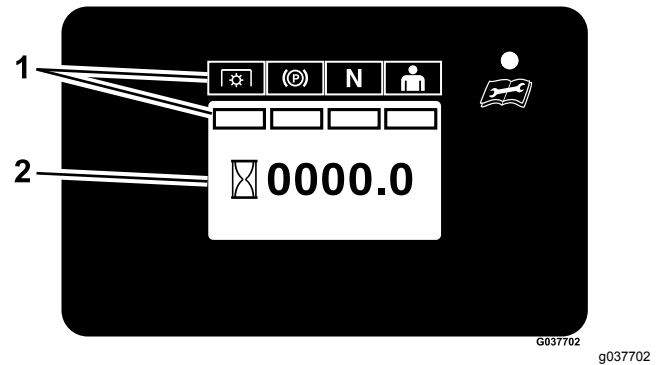

Figure 9
- If the mower is not equipped with a fuel sender, only the safety-interlock indicators and the hour meter will display as shown in Figure 9.